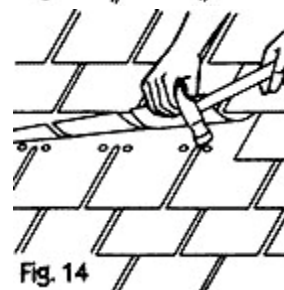

Fig. 14
6. Nail the new shingle in place with broad-headed, galvanized roofing nails. Use two nails on each tab to make 6 nails to each full shingle strip (Figure 14). The shingle should be "blind nailed." That is, the nails should be covered by the upper shingles when they are lowered into place.